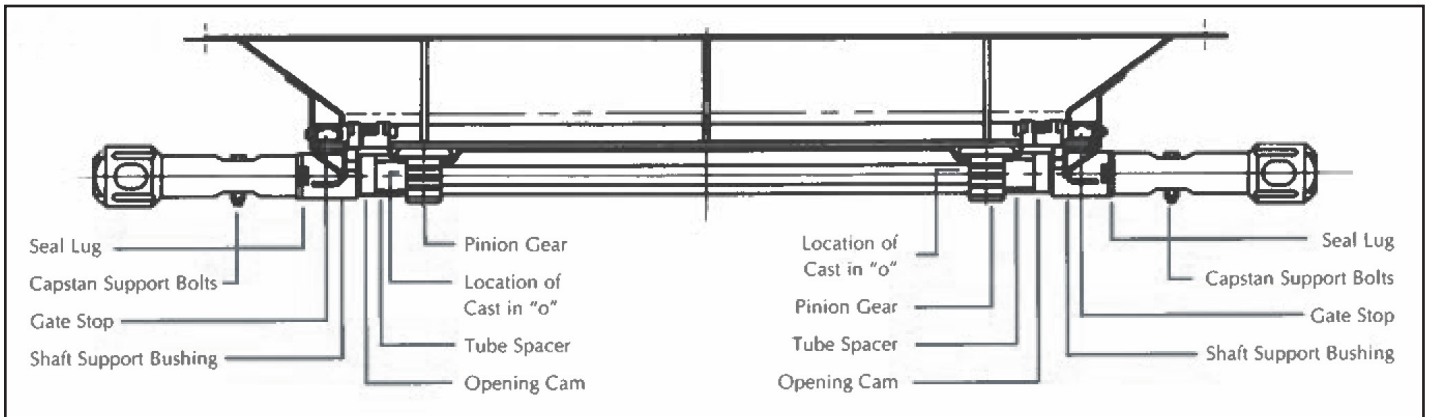

Figure 1
5. Install one tube spacer on the shaft as shown in Figure 1.